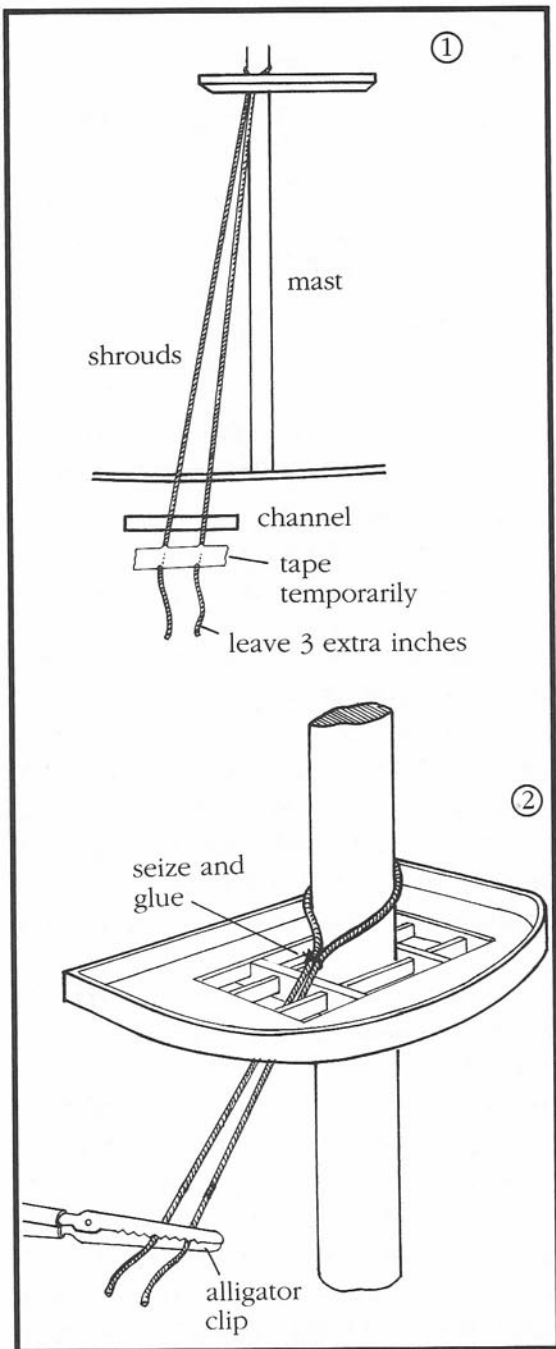

FIGURE 50. *Rigging lower shrouds.*
length. Cut all shrouds about 3 inches longer than the measured distance because you'll need the extra length when you tie them to the deadeyes before reeving the lanyards. See Figure 50. Run the shroud around the lower mast above the trestletrees and drop and tape both ends evenly (1) just below where they will attach to the channels when the masts are stepped. Figure 50 shows how the shrouds will look when the masts are placed on the hull. Take an alligator clip and place it on the shrouds just below the trestletrees — this will keep them from slipping. With a simple overhand knot in a short section of a separate piece of rigging line, tie the shrouds just above the trestletrees (see Figure 48 on page 81); apply a dab of glue (2). Tape or clip the lower ends together until later. Alternate sides with each pair of shrouds.